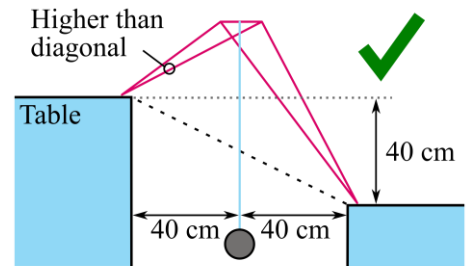

Figure 1. Acceptable bridge.
- 4) The bridge shall span between two smooth tables set 80 cm apart. The difference in elevation between the tables shall be 40 cm. Before loading, all parts of the bridge shall be above the diagonal from the edge of one table to the edge of the other (see Fig. 1).